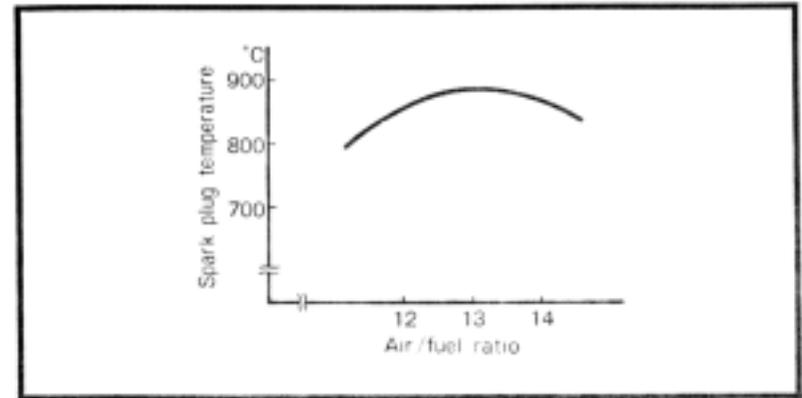

Fig. 5-4. The most power-efficient air/fuel ratio (around 13:1) releases the most heat in the chamber.
- The air/fuel ratio. The ideal air/fuel ratio, the ratio that delivers the most power, also generates the most heat (Fig. 5-4).